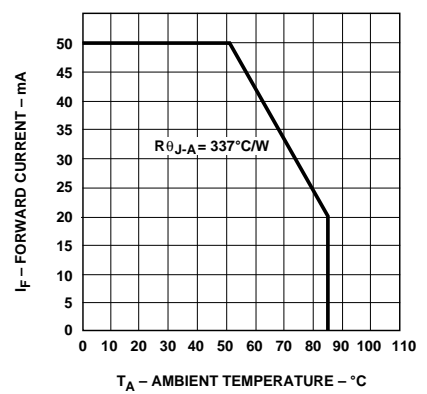

Figure 5. Maximum dc Current vs. Ambient Temperature. Derating Based on TJ Max. = 110°C.
1. Derate linearly as shown in Figure 5.